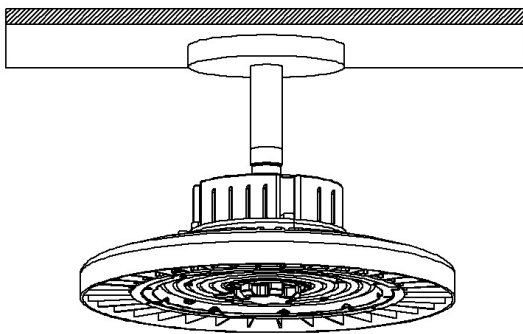

Fig. 9
2. Screw one side of the pipe into the 3/4" NPS adaptor, secure another side to the of mounting position. See Fig.9